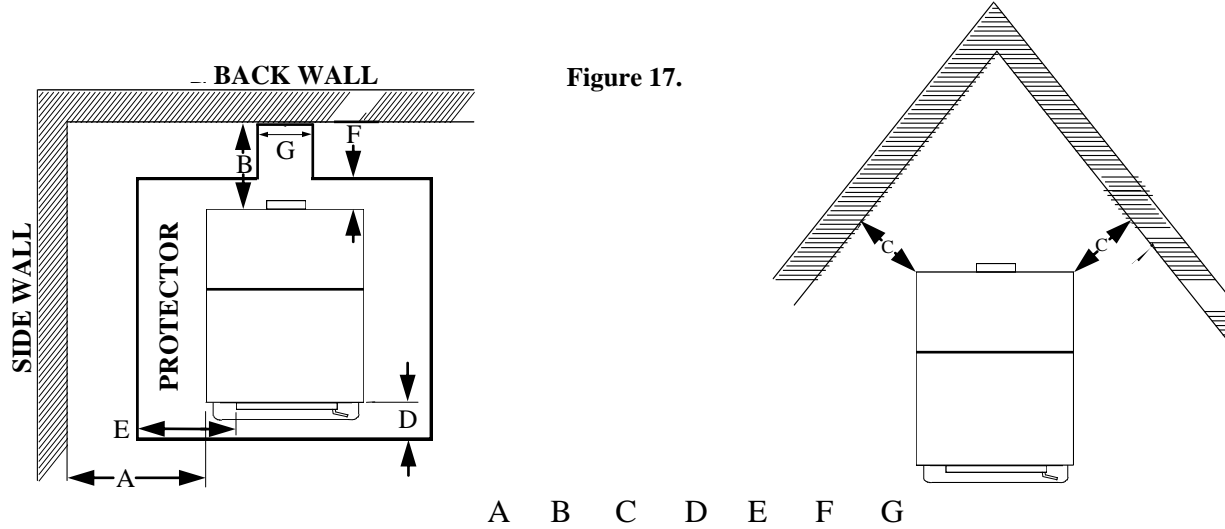

Figure 17.
- A. Rear Exit Into Masonry Flue Using Single Wall Pipe(Page23, Figure17)
NOTE: For minimum clearances (See Page 23, Figure 17).